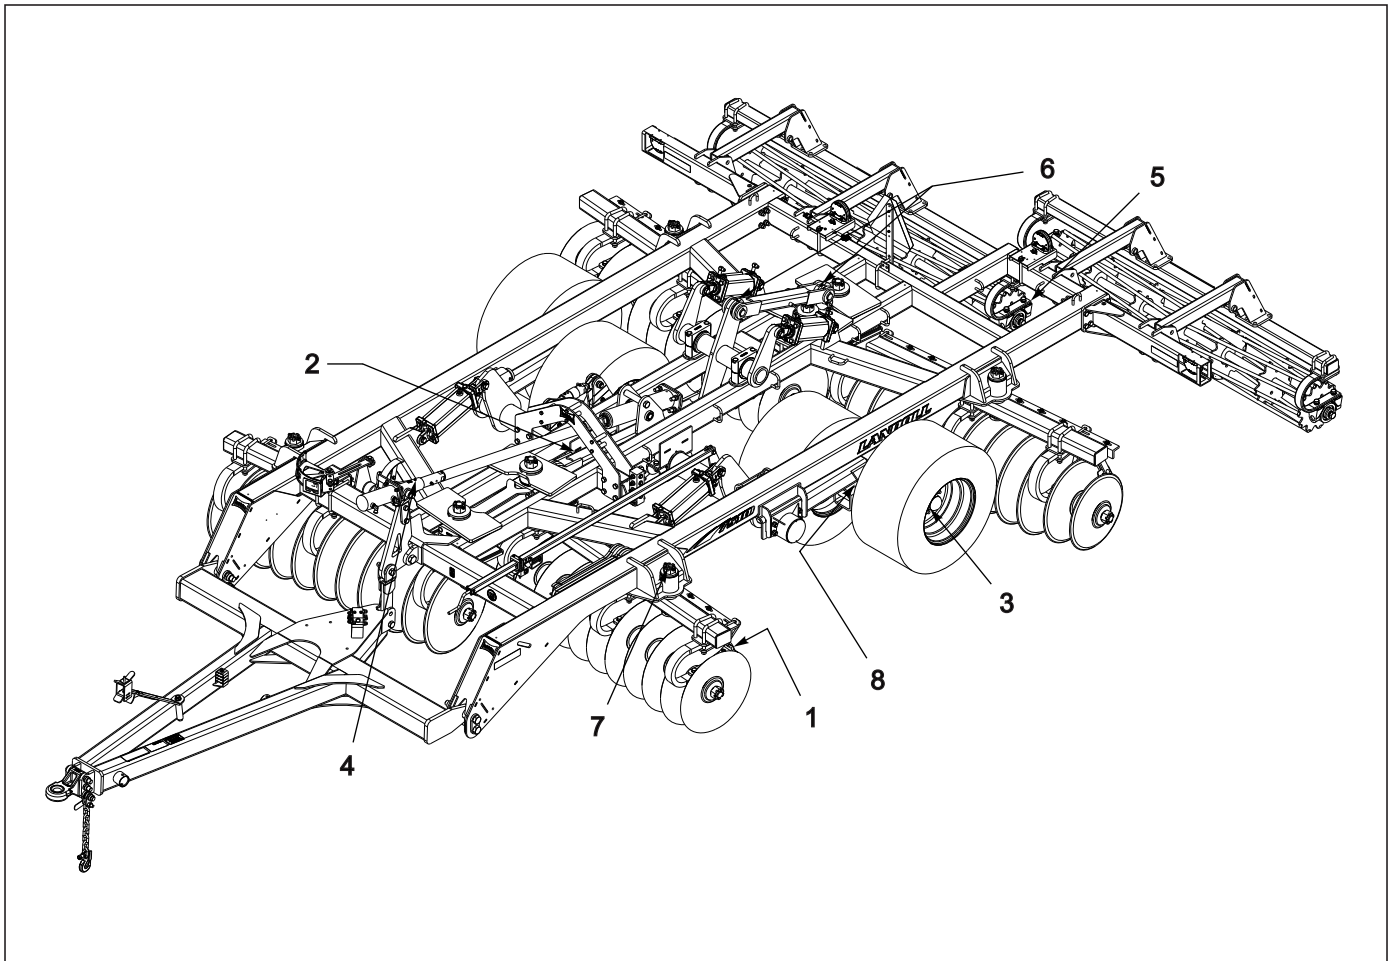

Figure 4-18: Lubrication Schedule
1. A proper maintenance schedule will insure a long operating life and peak performance. Performing the following lubrication will ensure maximum operating life of the 7510 VT (See Table 4-1 and Figure 4-18.)